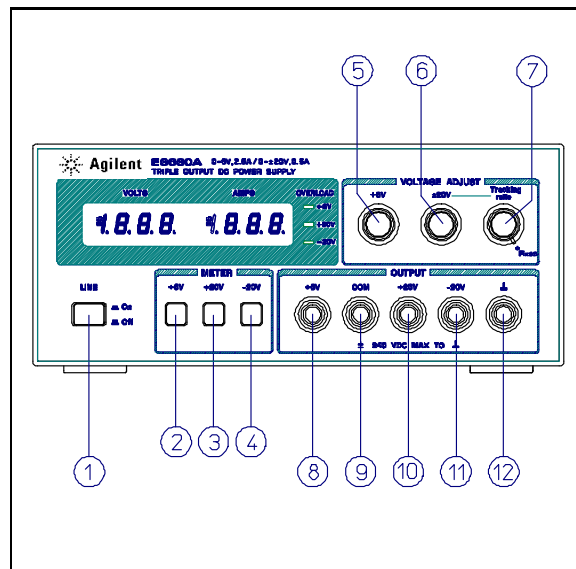

Figure 2. Front-Panel Controls and Indicators
The following steps describe the use of the front panel controls and indicators illustrated in Figure 2 and serve as a brief check that the supply is operational. Follow this checkout procedure or the more detailed performance test of service information section when the instrument is received and before it is connected to any load equipment.
This power supply can be operated individually or in parallel or series with another supply (see Parallel and Series Operation paragraphs). All output terminals are isolated from ground. The ± 20 V and +6 V outputs use a single common output terminal. This common (COM) terminal or any one of the other output terminals may be grounded to the chassis at the front panel ground terminal (⑫ in Figure 2), or all outputs may be left floating. Loads can be connected separately between each of the 0 to ± 20 V output terminals and the COM terminal, or between the -20 V and the +20 V terminals for a 0 to 40 V output. Each output voltage or current can be quickly selected for monitoring with the push-button meter switches.